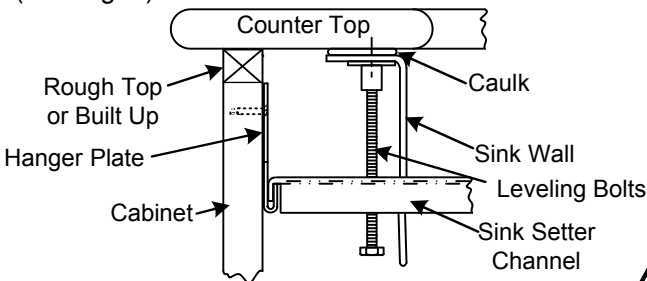

Fig. 4 Cross-Section of Mounting
5) Caulk the rim of the sink to provide a seal as the sink is raised back up into position during the final step. Place the countertop (with the sink opening pre-cut) in position and raise the leveling bolts with a nut driver (See Fig. 4)